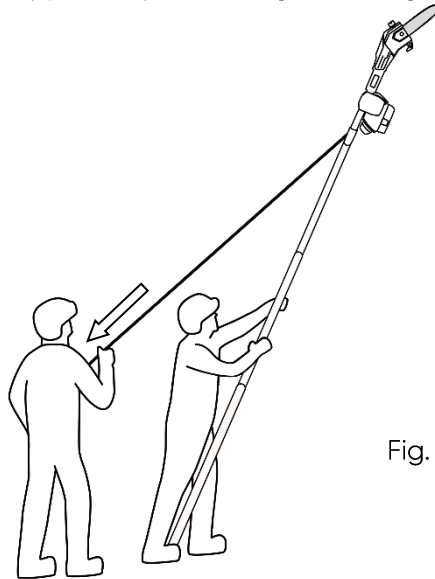

Fig. 22
- When moving away from the danger zone, cushion the pole with the saw with a polypropylene rope, securing the set against falling (Fig. 22)